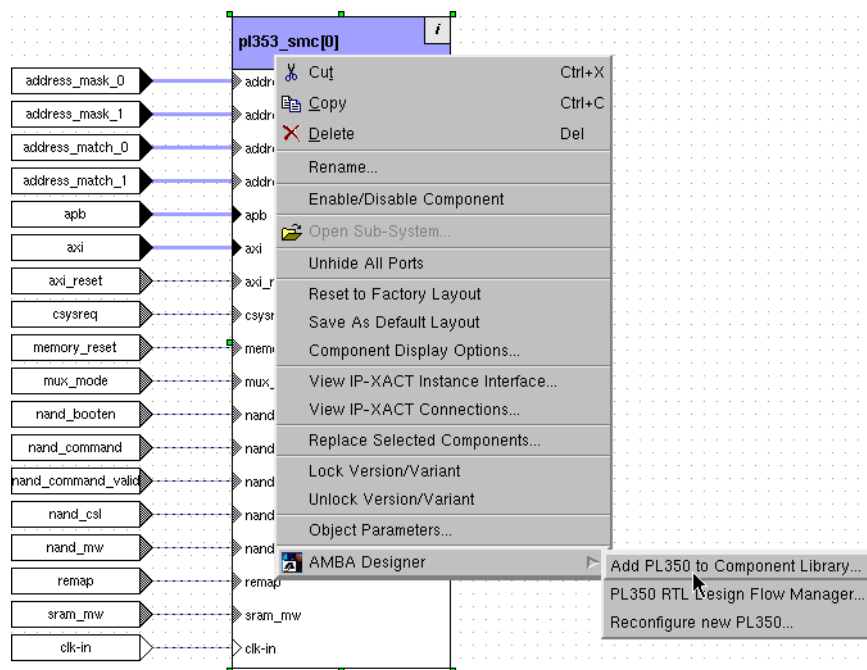

Figure 6-5 Adding the PL350 to the component library
2. Select **AMBA Designer** → **Add PL350 to Component Library...** from the context menu, as Figure 6-5 shows.